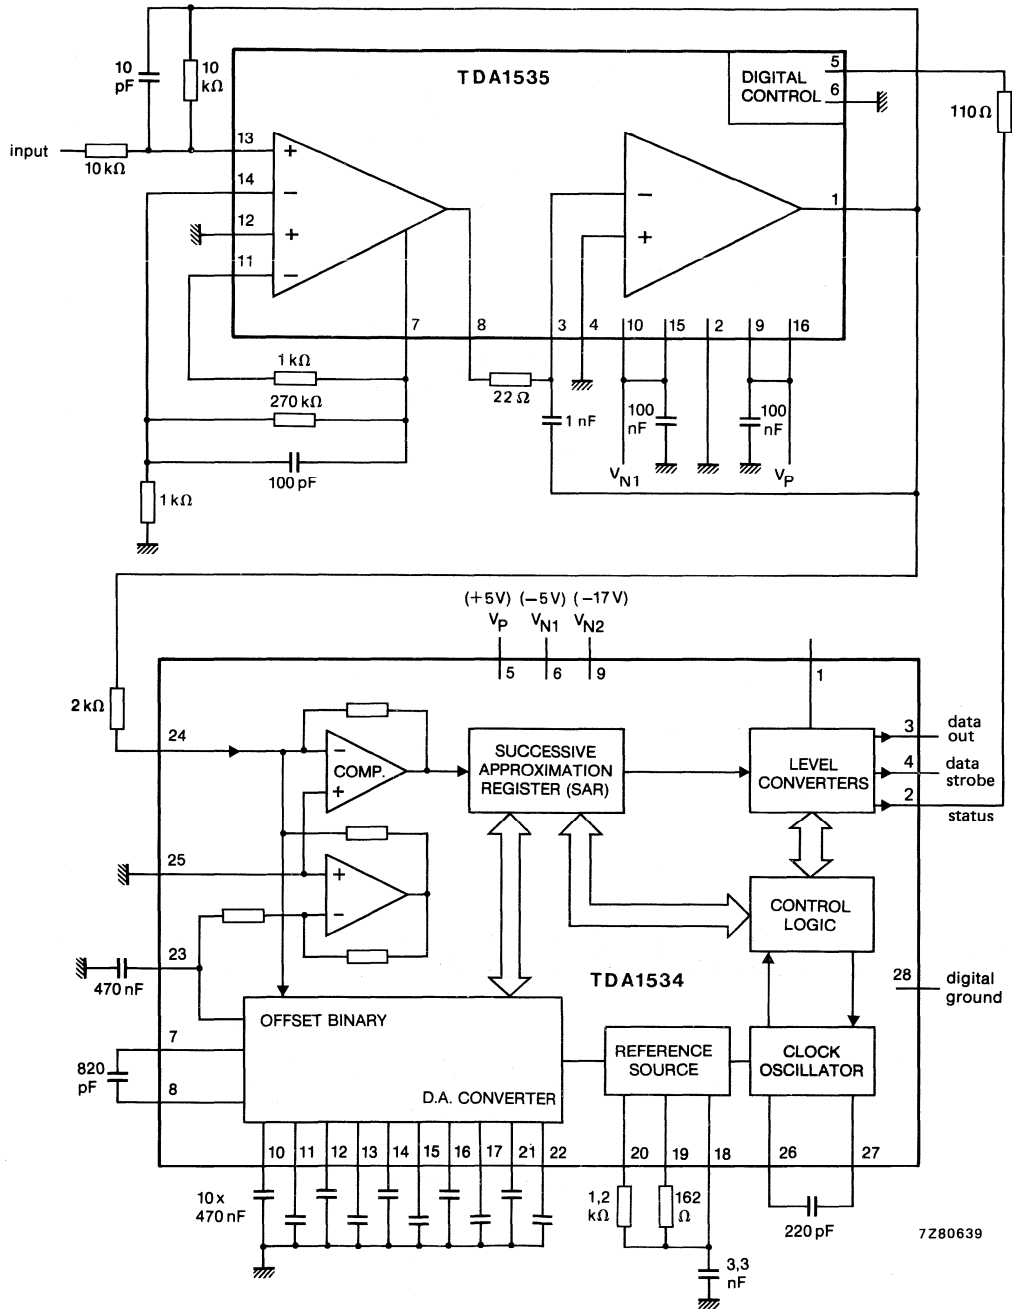

Fig. 4 Application and test circuit.
**CHARACTERISTICS** (see application circuit Fig. 4) $V_P = 5\text{ V}$ ;  $-V_{N1} = 5\text{ V}$ ;  $-V_{N2} = 17\text{ V}$ ;  $T_{amb} = +25\text{ °C}$ , unless otherwise specified.